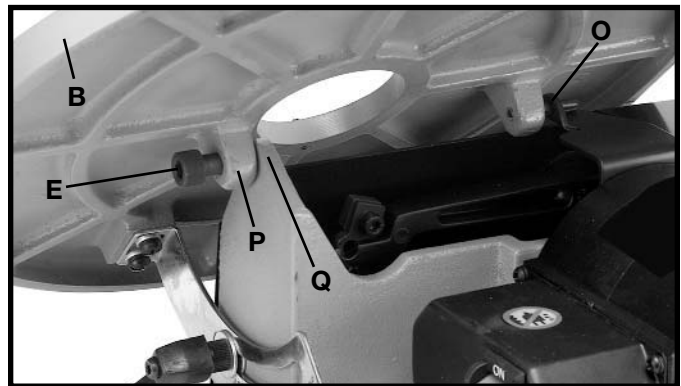
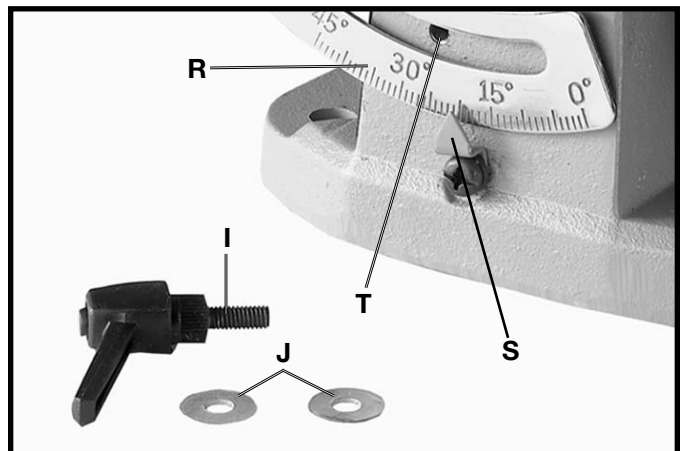

Fig. 6
Fig. 7
3. Position table (B) Fig. 6, on the machine, as shown, making sure pin (O) in rear table casting is engaged with hole in base casting. Insert pivot bolt (E) through hole in table casting (P) and thread into base (Q) using the 6mm wrench. Thread M6 hex nut on end of pivot bolt (E). Make sure the tilt scale (R) Fig. 7, is positioned inside pointer (S) as shown.
4. Position M6.4 flat washers (J) Fig. 7, on inside and outside of tilt scale (R) and thread end of table lock handle (I) into hole (T).